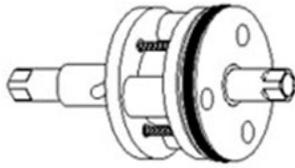

Figure D-10. O-Ring plate attached to drive shaft
2. Screw the slotted-head screws into the O-Ring plate, and push the drive shaft into the O-Ring plate as far as it will go, as shown in Figure D-10.